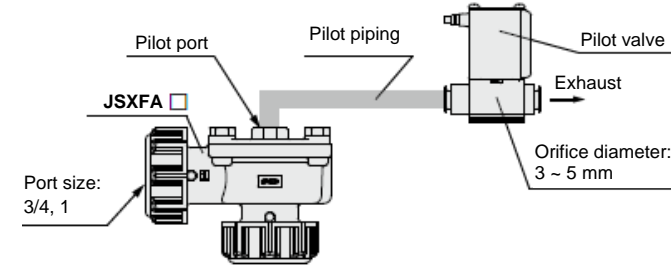

Fig.5
- Valves with suffix 'A':** These valves (available for port sizes 3/4, 1) can be operated with a pilot valve with orifice size between 3 mm and 5 mm, see Fig.5 (example showing JSXFAE-06/10).